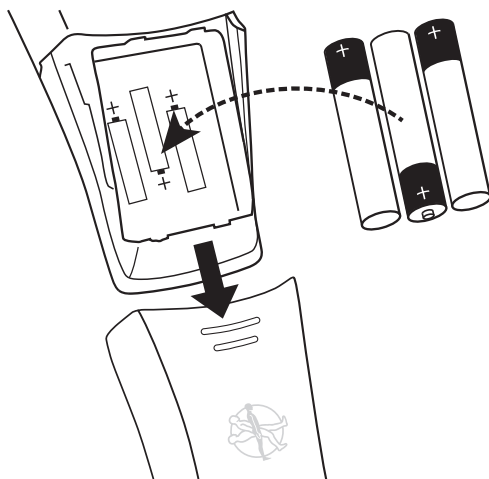

Figure 2: Install the batteries with proper polarity
3. Install three new LR6 (AA-sized) alkaline batteries. Verify that the batteries align with the polarity markings on the inside of the battery compartment (see Figure 2).